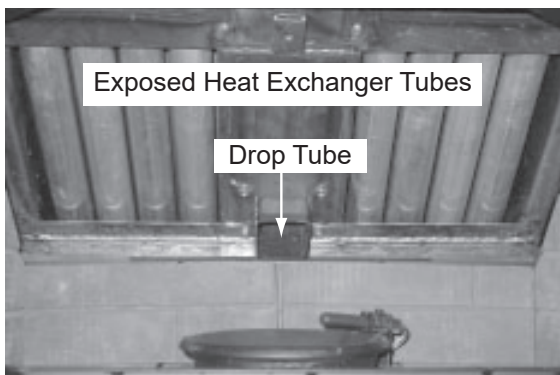

Figure 22.1
- a. Use a Shop Vac to vacuum any fly ash and soot from the heat exchanger tubes and firebox area (**Figure 22.1**).